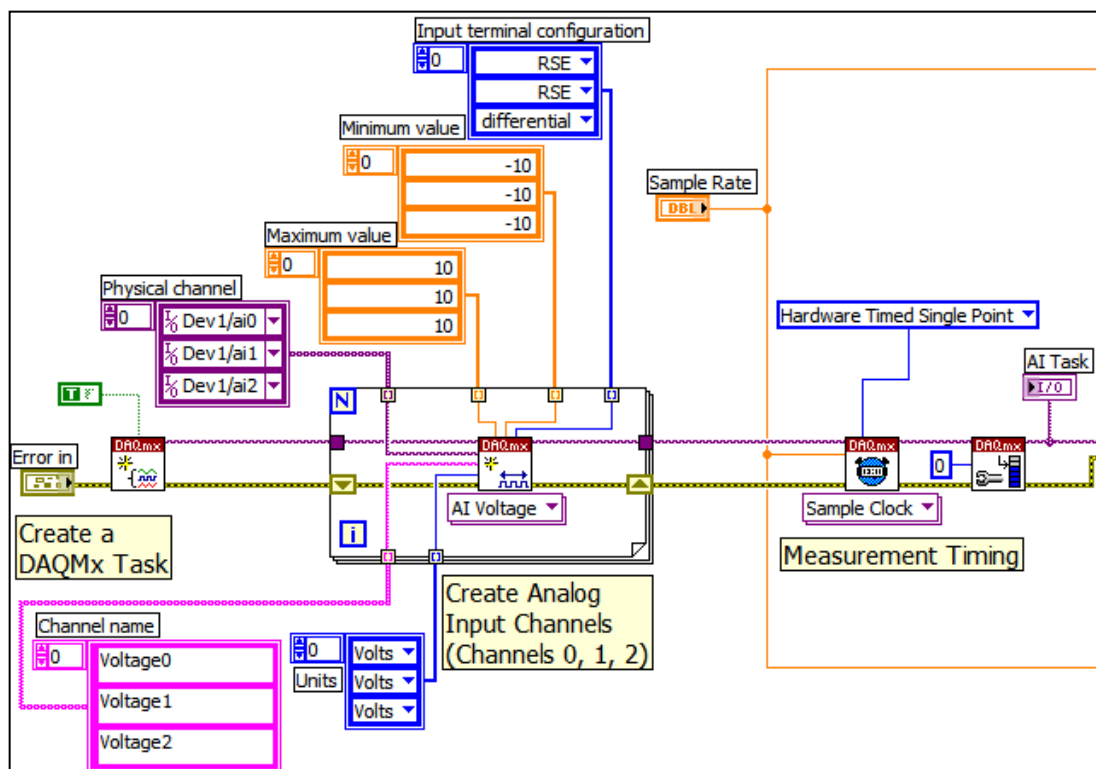

Fig. 2. Segment to Create DAQmx Task and Initialize Analog Input Channels
- The most recent form of data acquisition available in LabVIEW is called *DAQmx*. LabVIEW includes many subroutines (VI's) to support this feature. *Fig. 2* shows the first segment of the code that utilizes *DAQmx* VI's to create a *closed-loop control/data acquisition task* and *initializes* the analog input *channels*.